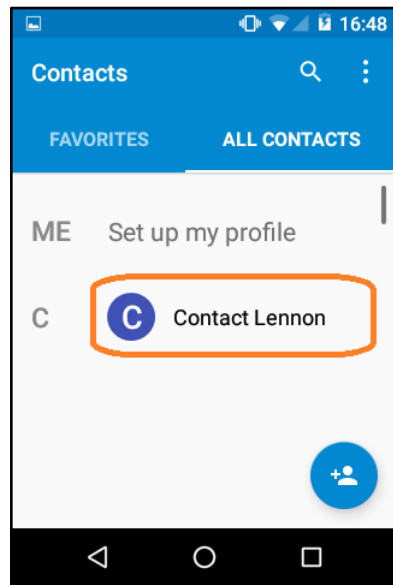
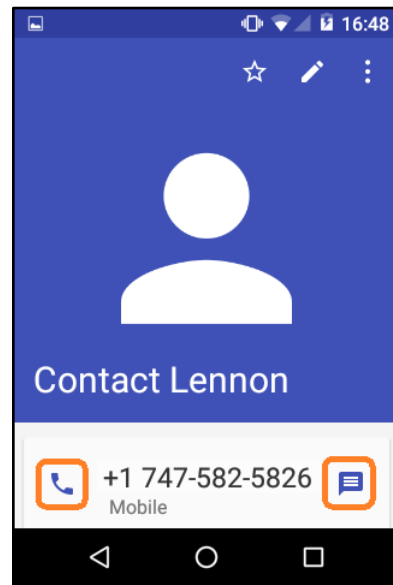

Figure 14: Create List
Figure 15: Contact Information
5. To initiate a call from the contact list, tap the desired contact name in the list (see **Figure 14**). This displays the contact's information, as seen in **Figure 15**.
The main menu of the SHOUT app (**Figure 14**) provides access to the four (4) submenus: **Texting, Tracking, Utilities, and Settings**. At the bottom of the screen is text indicating the application status. If it has successfully connected to the SHOUT sp, the text will read “*Connected*”. When not connected, the text will read either “*Not Connected*” or “*Incompatible with SHOUT sp + <version number>*”. If *Not Connected* is displayed conducting a power cycle on the unit should remedy the issue. The *Incompatible* message indicates that there is a mismatch between the app and device software versions. Updating both to the latest available software will correct the issue.